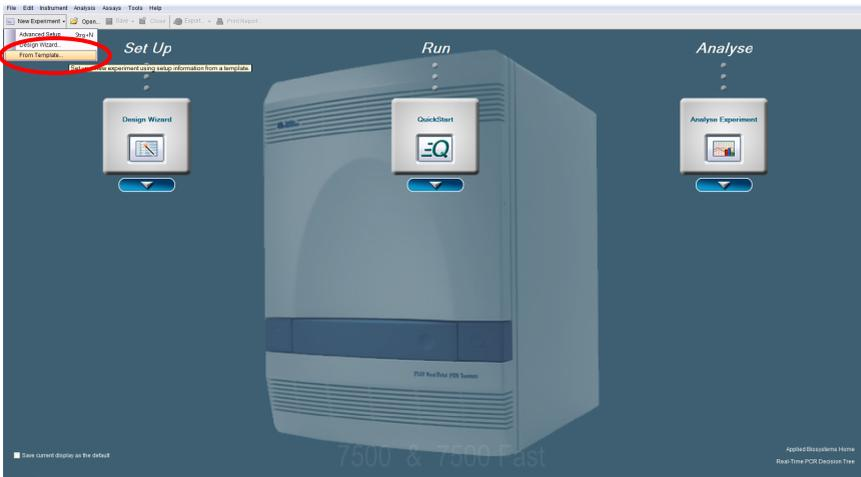

Figure 23. Starting a new experiment from a template.
9. If you are using a template file, then select **New Experiment/From Template** (Figure 23, next page) and proceed to step 13, page 47, to assign the Targets to the Plate Layout. Then proceed to step 17, page 49, to save and start the run.